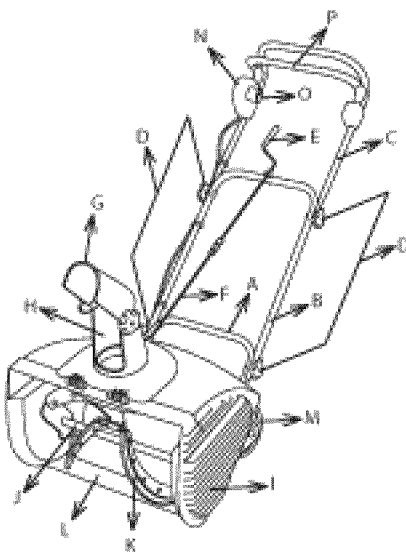

Figure 1
- a. **Know your snowthrower** - Familiarize yourself with the main parts of your snowthrower (Fig. 1).